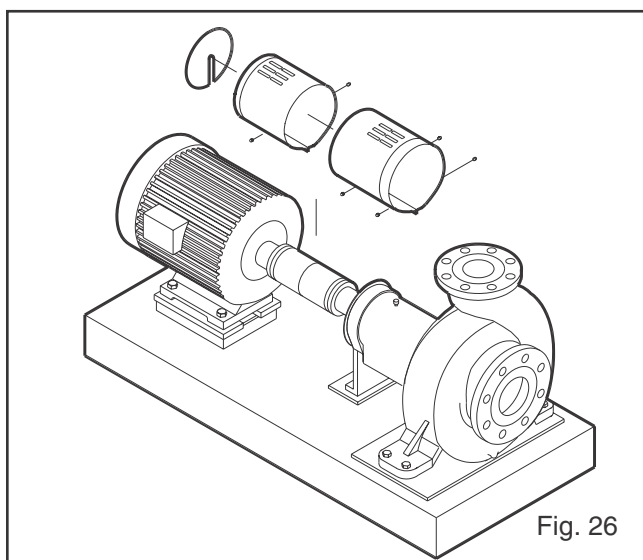

Fig. 26
2. Install coupling guard (Fig. 26). Refer to Coupling Guard Installation and Disassembly Section Appendix II.